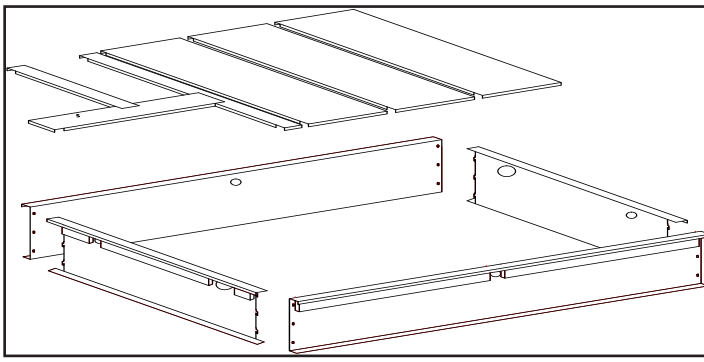
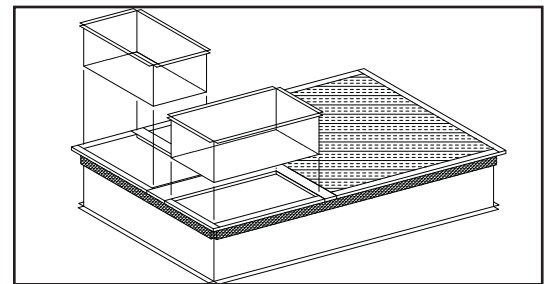

Figure 1
Figure 3
2. Position perimeter pieces as depicted in Figure 1 and Figure 3 with wood to the outside.
4. Install duct support pieces per Figure 1 and Figure 3.